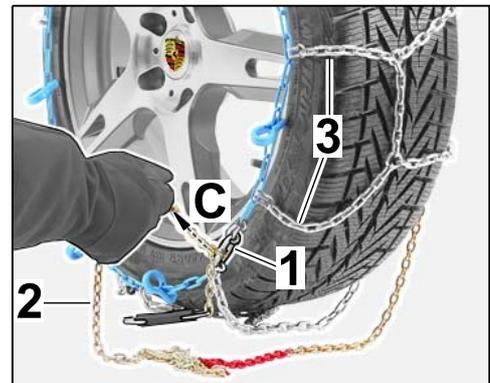

Figure 14
3.1.4 Disengage the chain link at the locking plate and pull the tensioning chain through the locking plate (⇒ *Figure 14 -C-*).
3.1.5 Loosen chain elements (⇒ *Figure 14 -3-*) of the snow chain on the tyre.